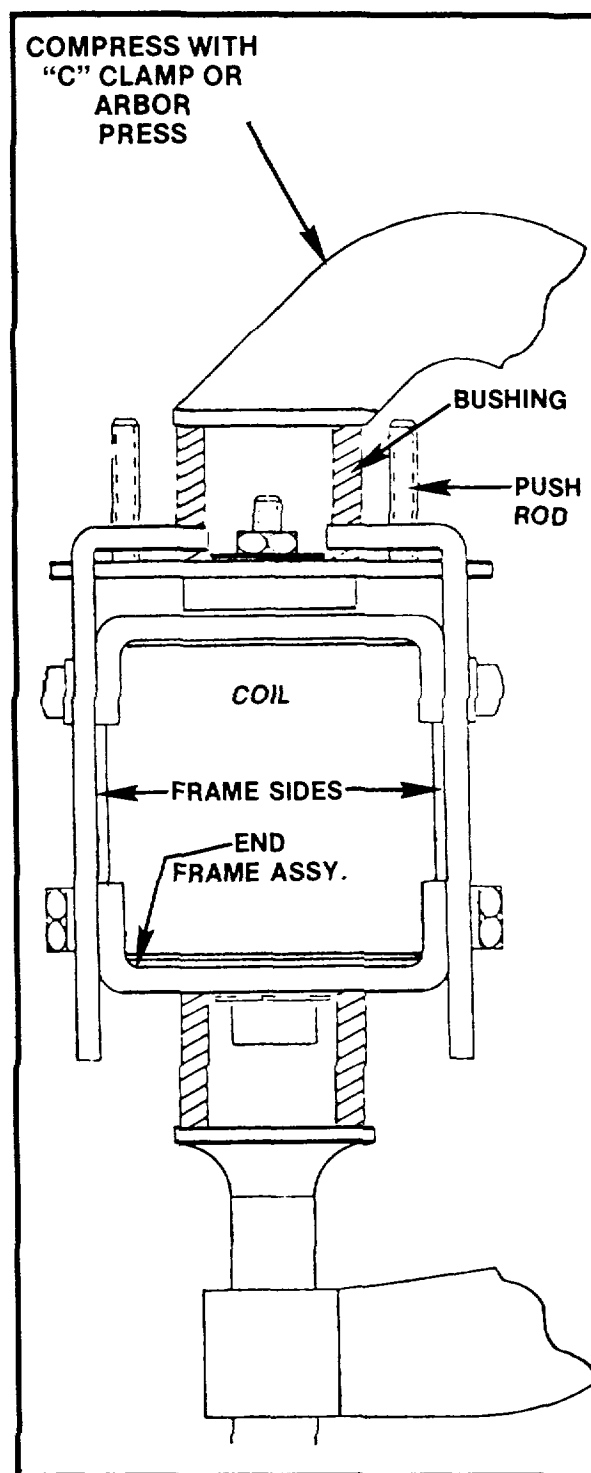

Figure 5-171
1. Remove two (2) end frame screws from the bottom end (side away from the contact structure) from each contactor side frame and remove the end frame assembly including coil (Fig. 5-171).